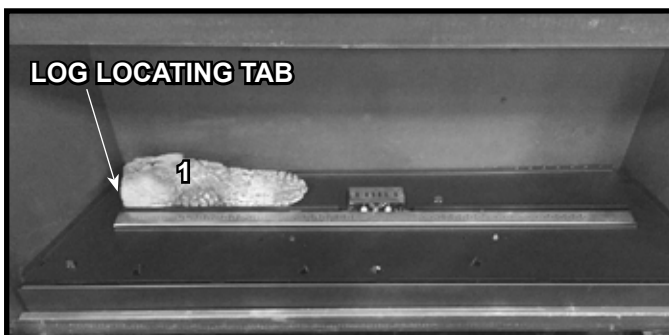

Figure 3 Place Log #1
3. Install Log #1 by locating the back left tab behind the burner. Place the log so that the left end is contacting the tab and the front of the log is touching the back sheet metal flange behind the burner. See Figure 3.